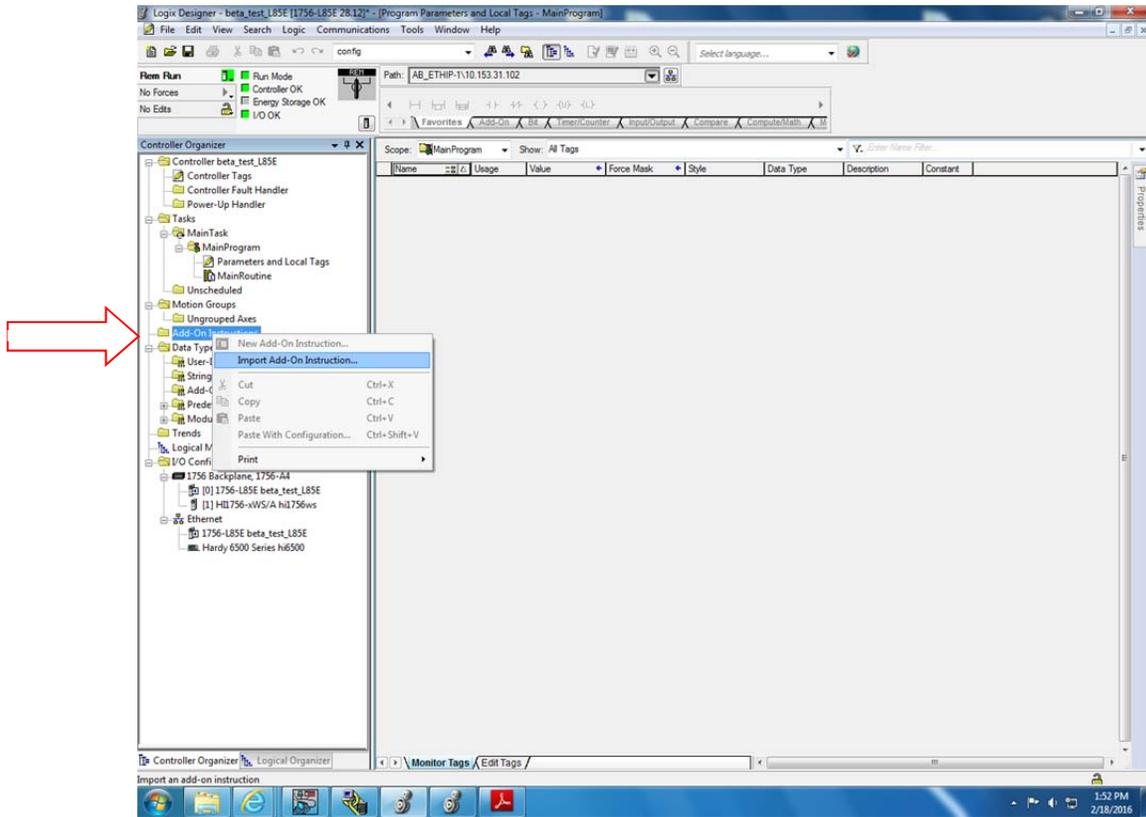

Figure 17
- Import the HI6500_Faceplate_AOI_v1_2. See Figure 17.